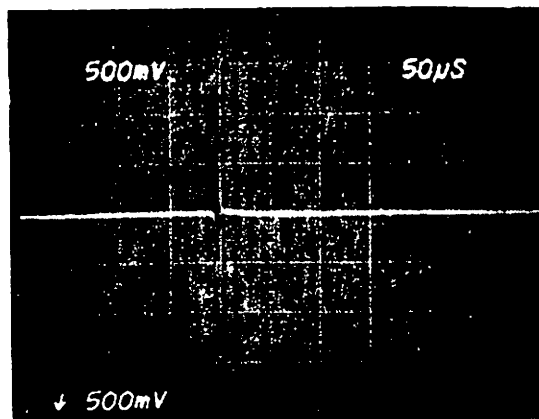

FIGURE 10 INDEX TIMING
- c. Manually turn the stepping motor lead screw slowly to Track 01 and observe the Index/Sector timing waveform shown in Figure 10. Adjust for maximum amplitude (middle of track) above and below reference.
- c. Observe the timing between the start of the sweep and the first data pulse. This should be  $200 \mu\text{sec} \pm 50 \mu\text{sec}$  (Ref. Figure 10). If the timing is not within tolerance, continue on with this procedure. If correct, proceed to Section 7.9.